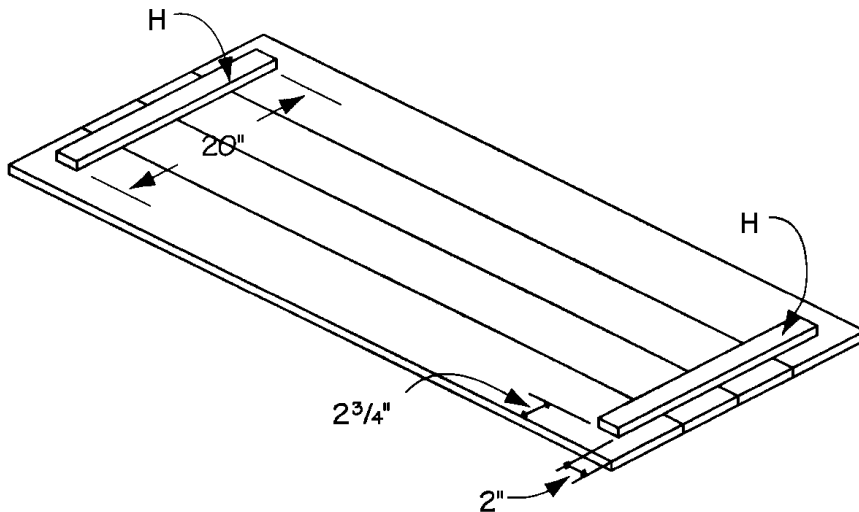

Figure 5
4. Cut two edge supports (H) from 1 x 2 pine, each measuring 20" long. These will be used to reinforce the glued top. Screw them to the rectangular top, positioning them 2-3/4" from the front and back, and 2" from the sides, as shown in Figure 5. Use eight 1-1/4"-long screws on each edge support (H).